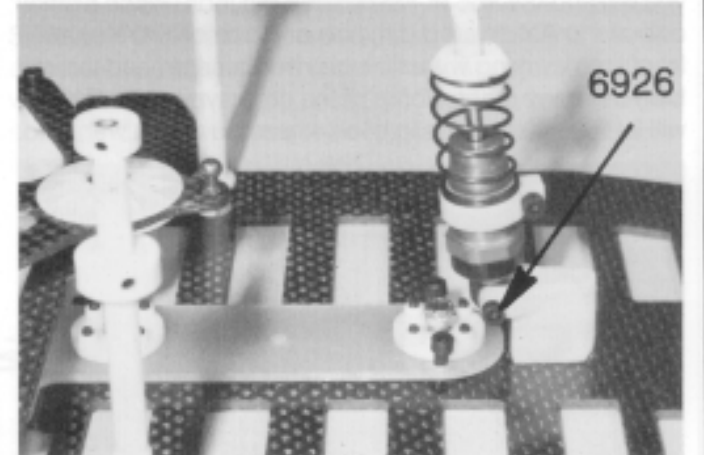

Fig. 60
□ **Fig. 60** Make sure that the shock bushing is still in the shock cap and then slip the aluminum cap end of the shock into the shock/antenna mount as shown. In bag 4 you will find the #6926 4-40 x 5/8" SHCScrew. Slide the 4-40 screw through the right hand side of the shock/antenna mount, through the shock pivot bushing and thread it into the other side of the shock antenna mount. Make sure you do not overtighten the screw; the shock has to be able to pivot freely.